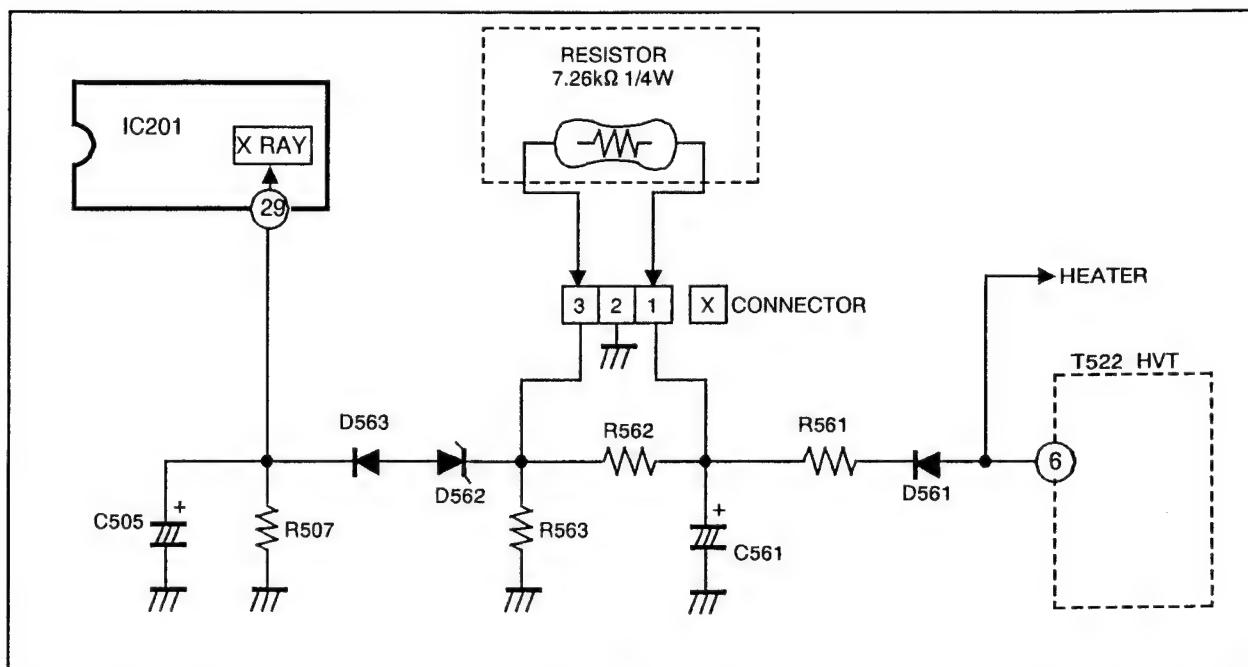

Fig. 1
After repairing the high voltage hold down circuit shown in Fig. 1.
- (1) Turn the POWER SW ON.
- (2) As shown in Fig. 1, set the resistor (between X connector 1 & 3).
- (3) Make sure that the screen picture disappears.
- (4) Temporarily unplug the power cord.
- (5) Remove the resistor(between X connector 1 & 3).
- (6) Again plug the power cord, make sure that the normal picture is displayed on the screen.